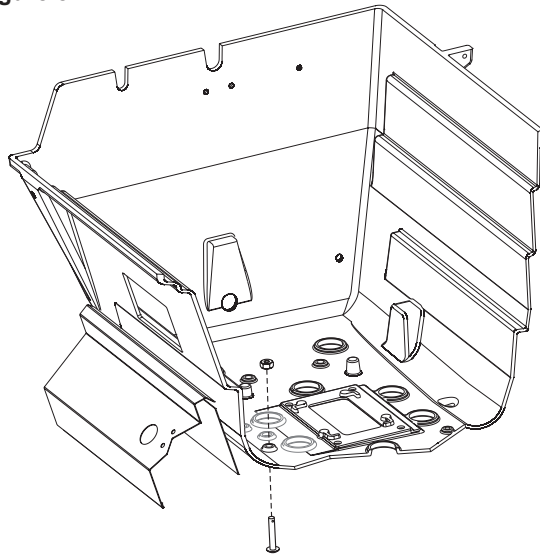

Figure 8
1. Insert the 1/4-20 x 1 1/2 Phillips Truss Head Screw from the underside of the grill and secure with the 1/4-20 Hex Nut. **See Figure 8.**